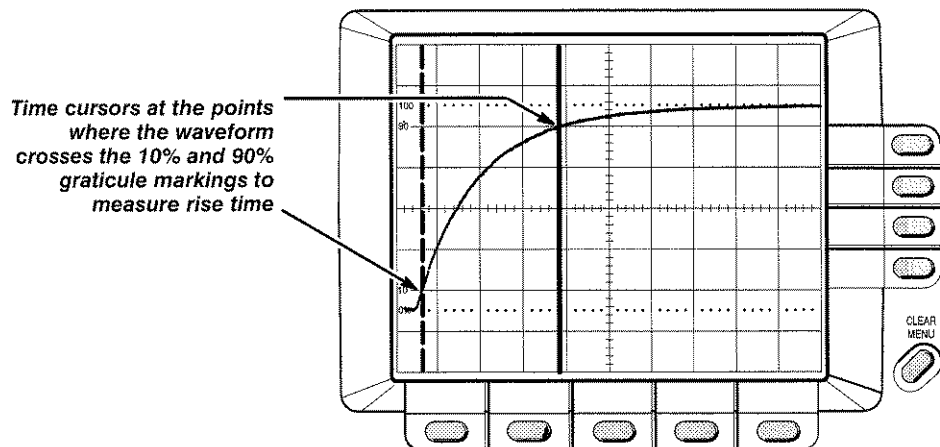

Figure 3-13: Taking Rise/Fall Time Measurements
Typically, you measure the rise and fall times between the 10% and 90% portions of the waveform. See Figure 3-13 to help take these measurements.
- Use the General Purpose Knob to move the active cursor to the point on the waveform where it crosses the 10% location of the waveform. This location is marked on the CRT graticule. See Figure 3-13 for placement of cursors.